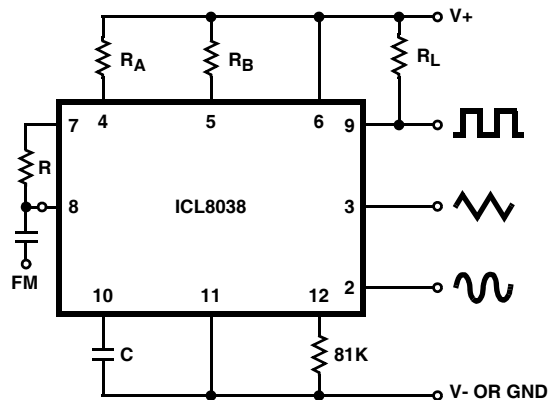

FIGURE 5A. CONNECTIONS FOR FREQUENCY MODULATION
3.  $V_{SUPPLY} = 20V$ ;  $R_A$  and  $R_B = 10k\Omega$ ,  $f \cong 10kHz$  nominal; can be extended 1000 to 1. See Figures 5A and 5B.
The frequency of the waveform generator is a direct function of the DC voltage at Terminal 8 (measured from V+). By altering this voltage, frequency modulation is performed. For small deviations (e.g. ±10%) the modulating signal can be applied directly to pin 8, merely providing DC decoupling with a capacitor as shown in Figure 5A. An external resistor between pins 7 and 8 is not necessary, but it can be used to increase input impedance from about 8kΩ (pins 7 and 8 connected together), to about (R + 8kΩ).